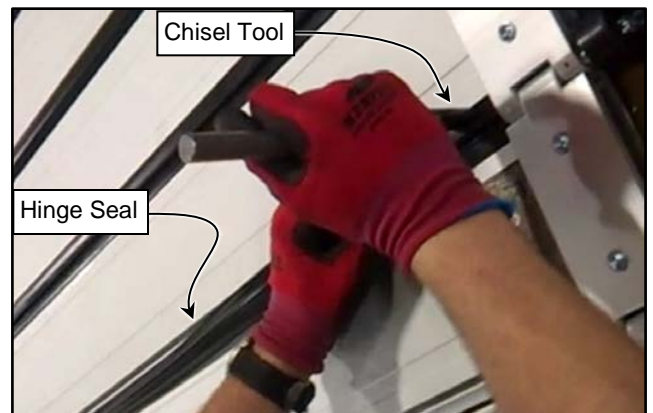

Figure 37
- Insert each end of the seal into the channel by butting the end up to the hinges as shown. Use the dull chisel to firmly press approximately 3" of the edges of the seal into the channel for proper seating. (See Figure 37)